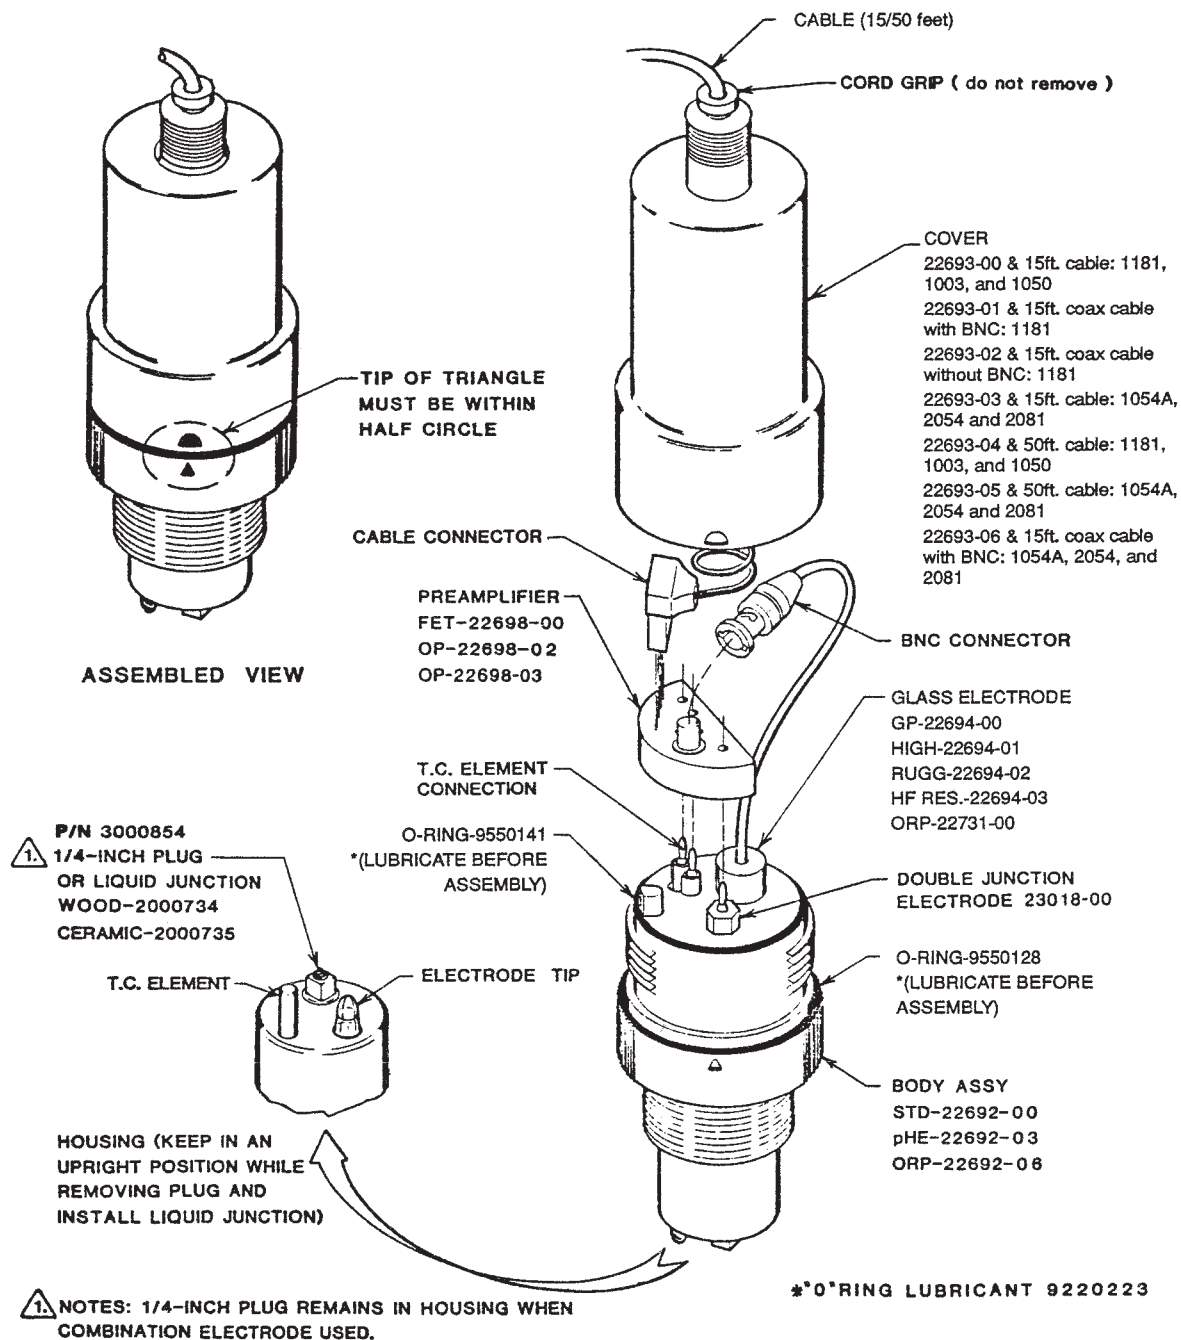

FIGURE 2-1. Model 381 Sensor Component Locator Diagram
2.1 INSTALLATION. Prepare the sensor for installation as follows (see Figure 2-1):
12. While holding the sensor in an up side down position (see Figure 2-1), remove the 1/4 inch plug from the electrode tip end of the sensor.